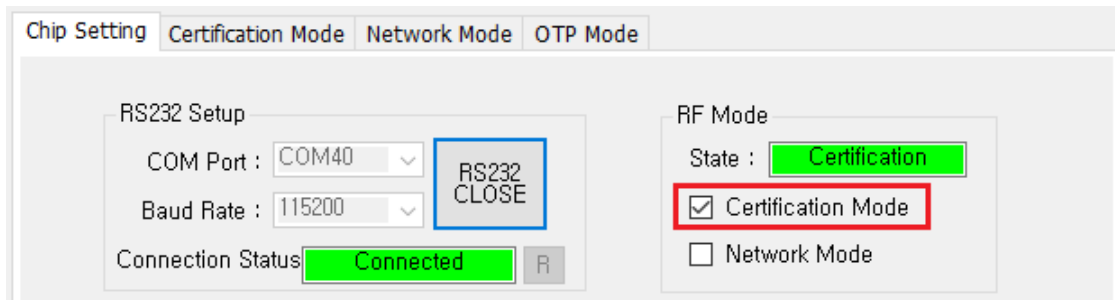

Figure 7: Certification Mode Configuration
1. Open the **Chip Setting** tab. See Figure 7.